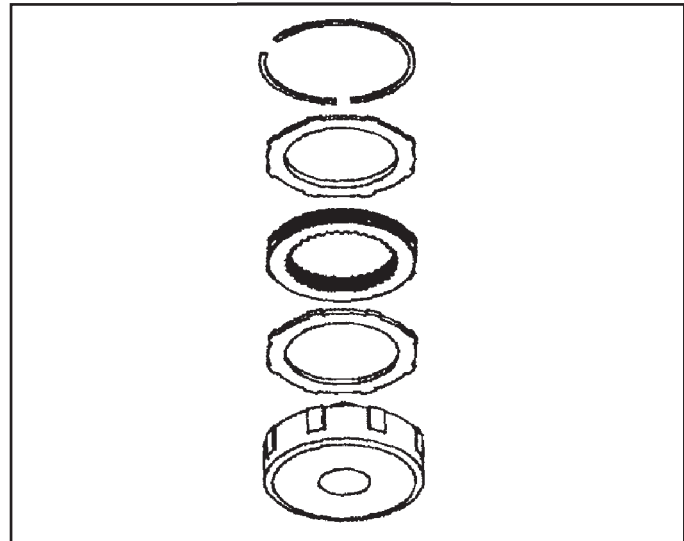

Figure 95
5. Remove the backing plate snap ring, the backing plate, the single sided clutch plates and clutch apply plate (See Figure 95).